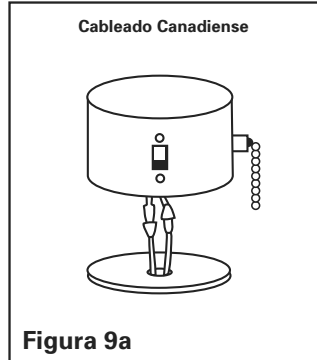

Figure 9a
5. NOTE: For French Canadian specs, please use the plug system (See figure 9a). If using with a UL spec fan, please cut off plugs, and wire with wire nuts provided with fan.